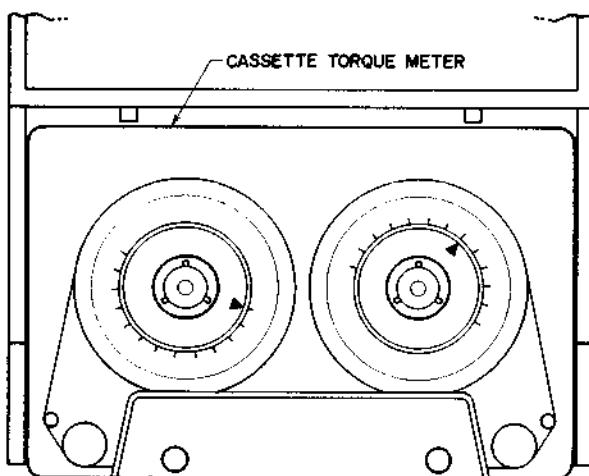

Fig. 7
6. TAKE-UP TORQUE AT VARIOUS MODES AND TORQUE MEASURING METHOD (Refer to Fig. 7)
As shown in Fig. 7, set a cassette torque meter on cassette base and take a reading of the indication (\blacktriangle mark) at each respective mode.